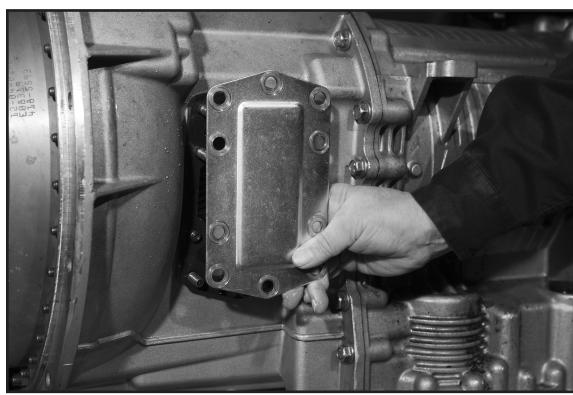

Figure 8
6. Remove the PTO aperture plate with a 15 mm socket (**Fig. 8**).